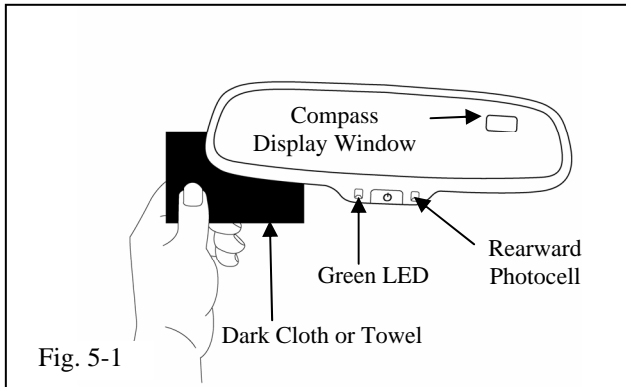

Fig. 5-1
- (1) To make sure the auto-dimming feature is on, verify that the LED indicator light is on. If it is not on, push the "On/Off" button for 3 seconds, or until the LED is illuminated.
- (2) Cover the forward-looking light sensor located on the back of the mirror with a dark cloth or towel. (Fig. 5-1)
- (3) In a few seconds, the mirror will begin to darken (time may vary with ambient light levels).
- (4) Remove the cover from the forward-looking light sensor and the mirror will begin to clear.